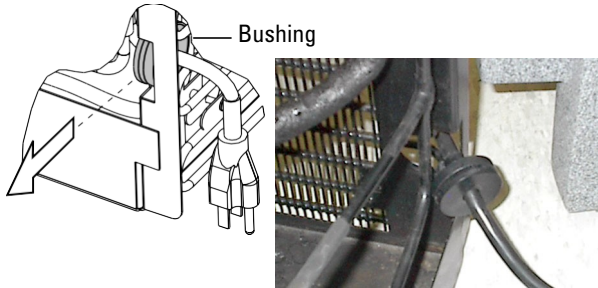

Figure 7: Remove line cord from module
- a. Slide the bushing sideways away from the refrigeration module until it is free (Figure 7). Avoid bending the refrigeration tubing.